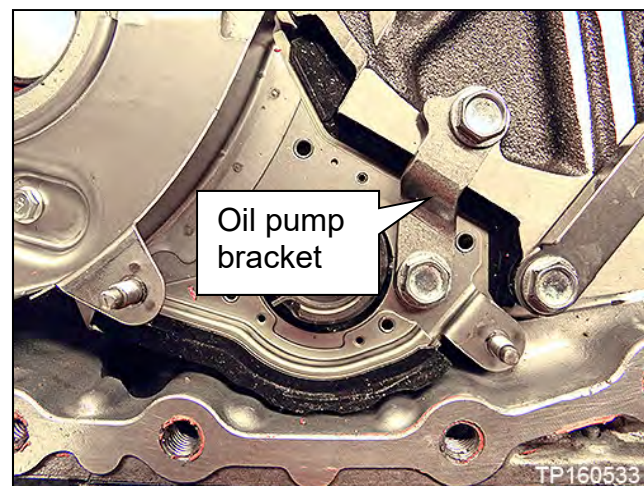

Figure 44
26. Remove the oil pump bracket (Figure 44).